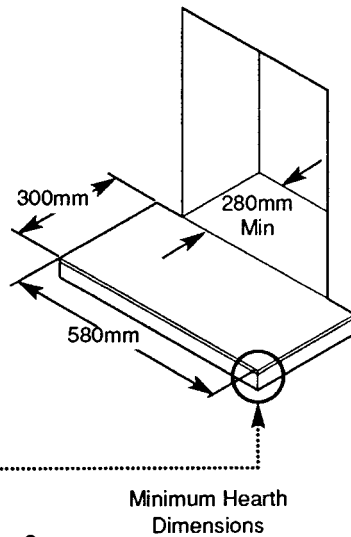

Fig. 6
1. The fire is intended to be hearth mounted only. The hearth must be of a non-combustible material at least 13mm (1/2 in) thick and measuring at least 300mm (11 13/16 in) deep by 580mm (22 27/32 in) wide. It must be fitted central to the fireplace opening. The top surface of the hearth should be a minimum of 50mm (2 in) above floor level (Fig. 6).